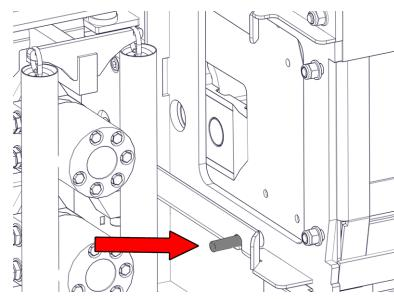

Figure 23 - Locking Bar Inserted
5. Insert locking bar through rotor housing and rotor (Figure 23).